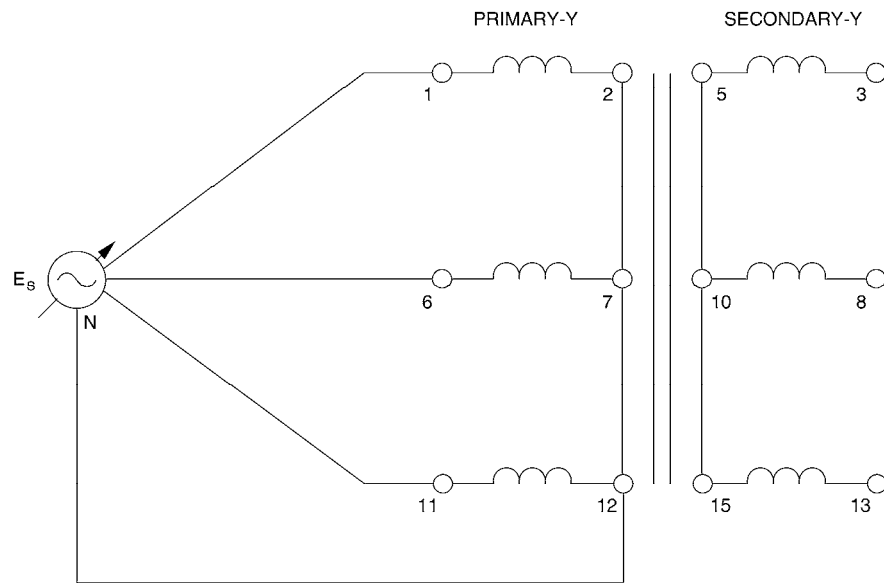

Figure 9-7. Three-phase transformer connected in wye-wye.
13. Turn off the power and connect the Three-Phase Transformer module in the wye-wye configuration shown in Figure 9-7.